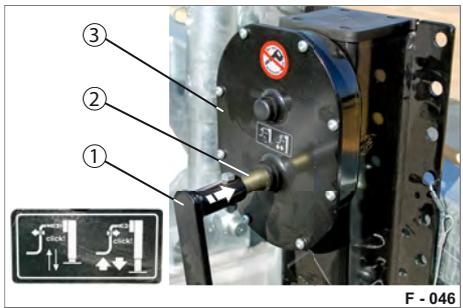

Fig. 71 Switching on low gear
- ▶ Leave the crankshaft (Fig. 71/2) in low gear (pressed in).
- ▶ Press the crankshaft (Fig. 71/2) into low gear.